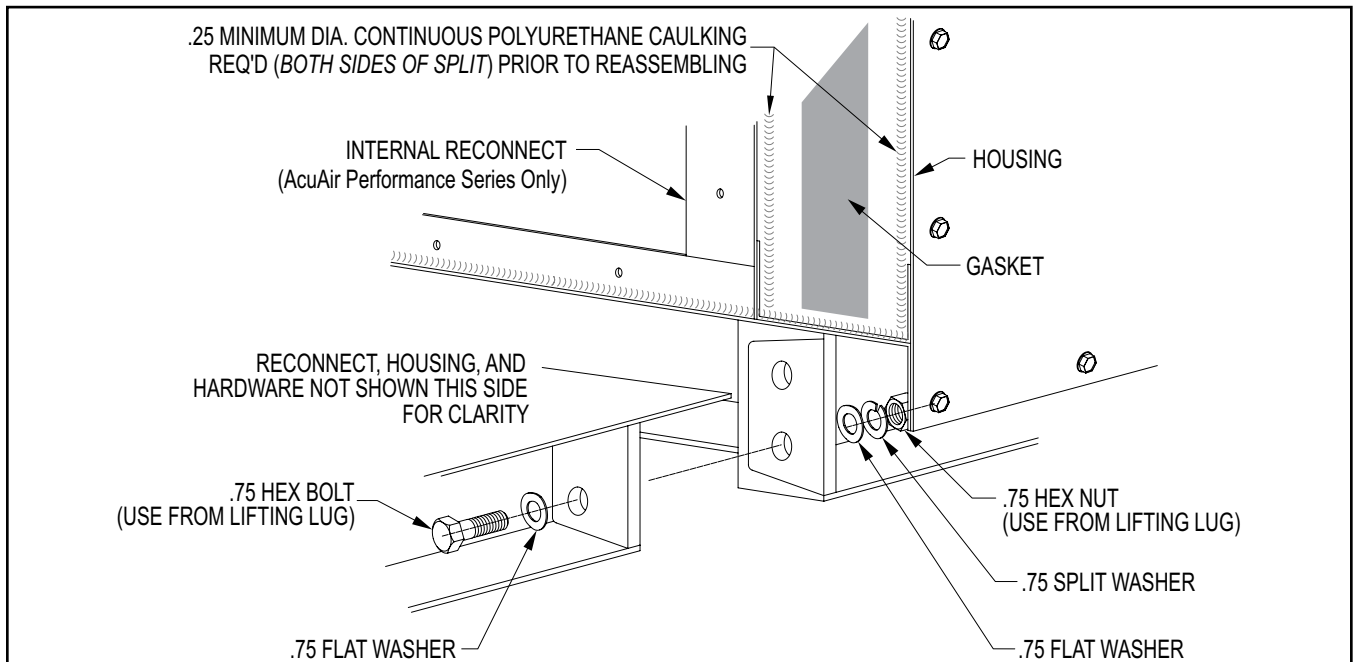

Figure 9 – Base Assembly Attachment - Relates to AcuAir Performance Series Unit Only
3. Apply polyurethane caulk on either side of the foam gasket and across the lower reconnect flange as indicated in Figures 9 and 11.
4. Attach hand winches to either side of the base via relocated lifting lugs and pull the sections together. Bolt base per Figure 9.